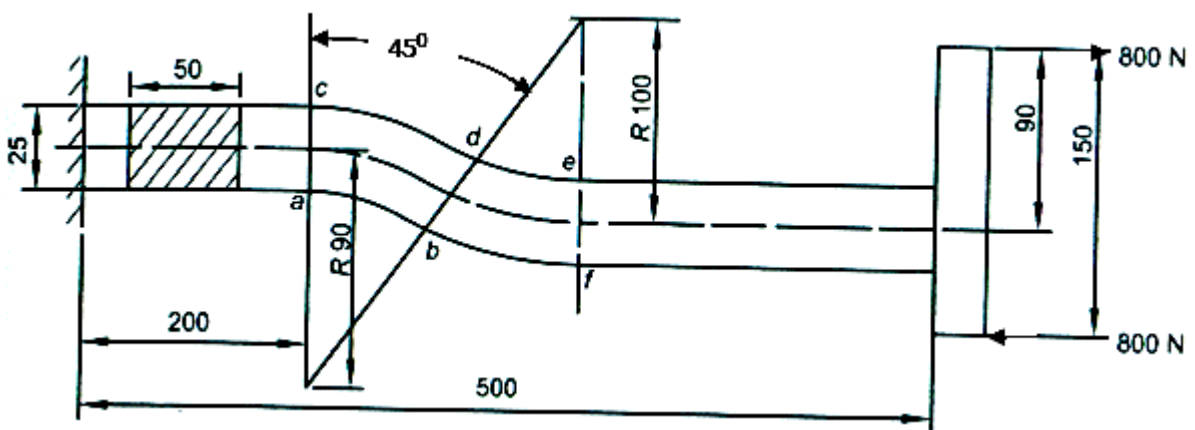

Fig.Q.2A
- 2A.** An offset bar has forces applied as shown in **Fig.Q.2A**. The bar is 25 mm × **(05)**